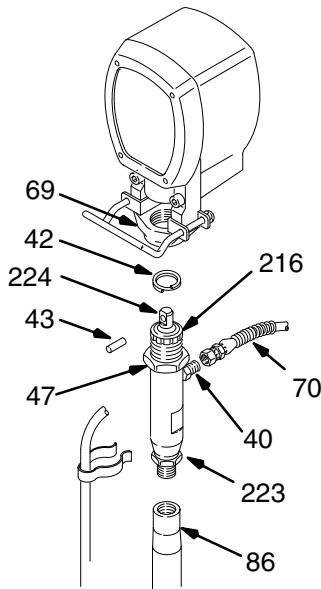

**Fig 38-1**
**NOTE:** The tapered end of the sleeve is the bottom of it. See Fig 38-1.
12. Slide the sleeve/piston rod assembly **INTO THE BOTTOM OF THE CYLINDER**. This is to prevent packing damage during reassembly. See Fig 38-1.
13. Screw down the cylinder locknut (47) until it is finger tight at the bottom of the external cylinder threads.